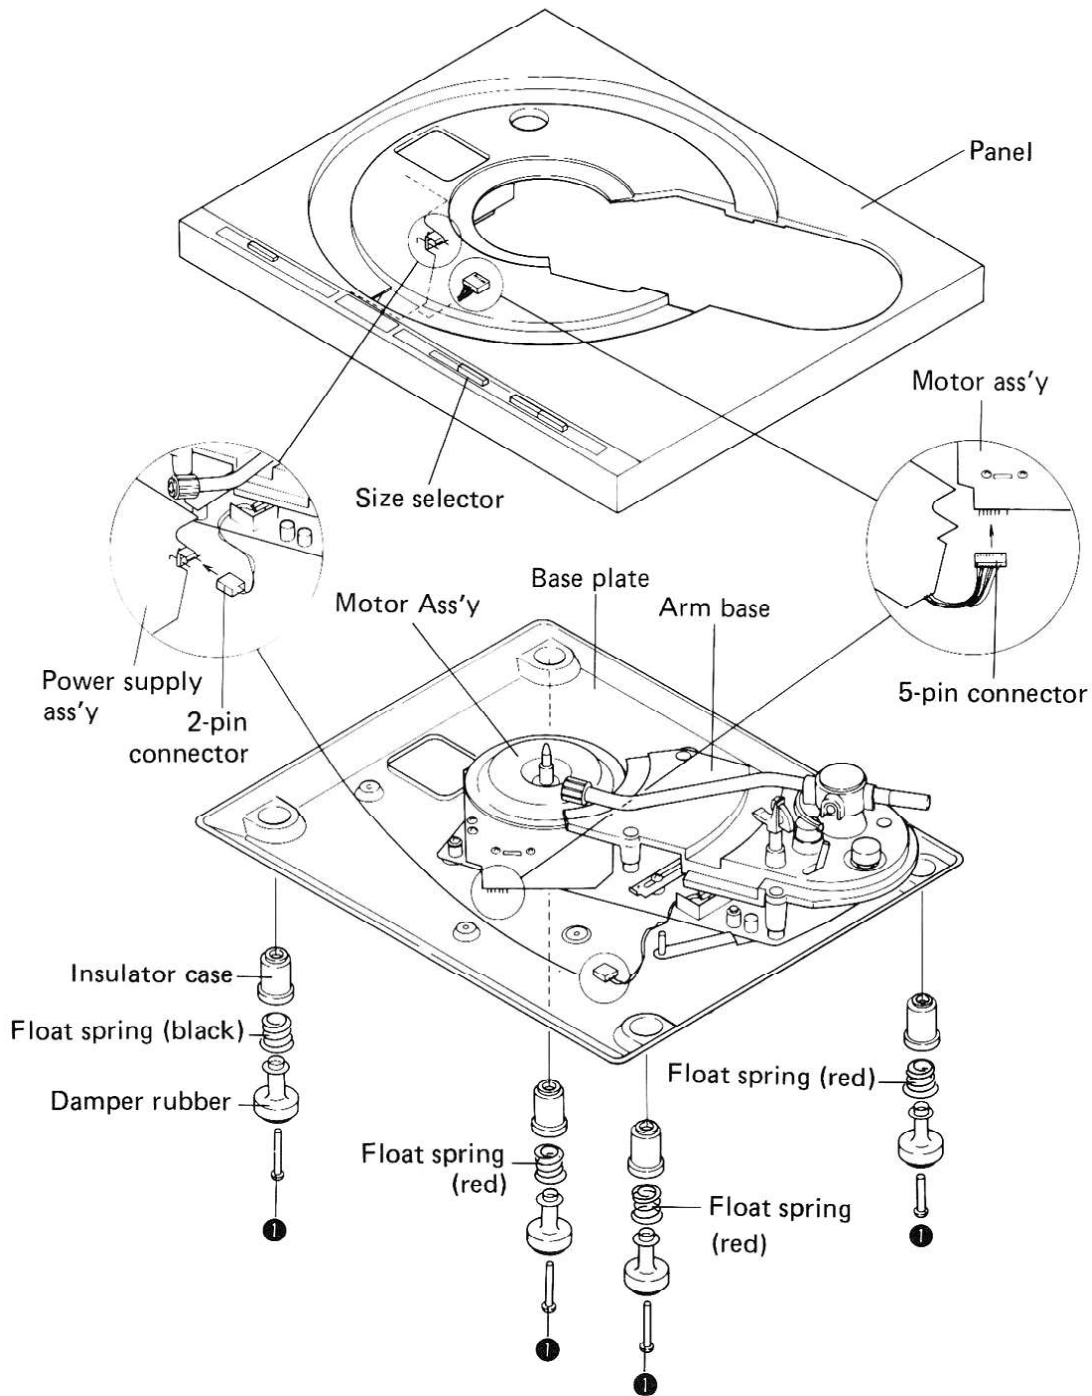

Fig. 5-1
*Note that the front left hand corner float spring differs from the other 3. Refer to Fig. 5-1 for correct mounting procedures.